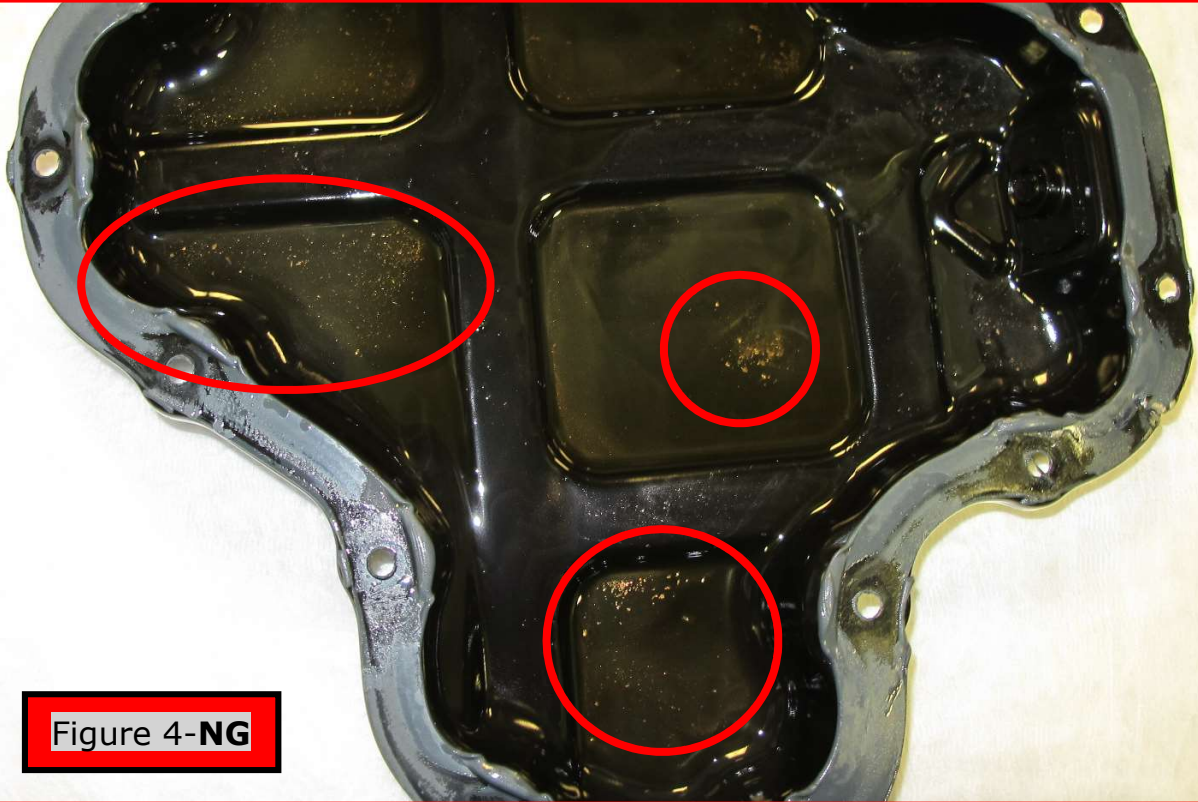

Figure 4-NG
- **Any** amount of **gold** colored debris in engine oil pan is **NG (Figure 4)**